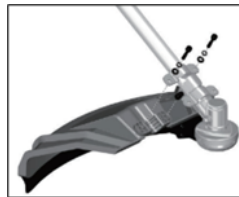
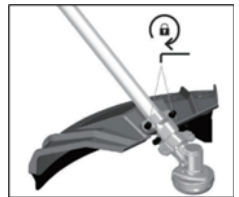

FIG.3-1
FIG.3-2
(FIG.3-1, FIG.3-2)
1. Place the guard on the fixture. (Fig3-1)
2. Assemble and tighten the screws. (Fig.3-2)